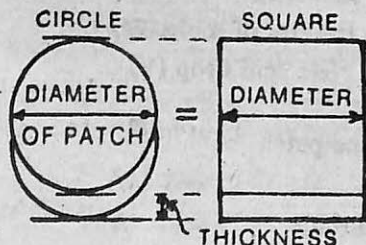
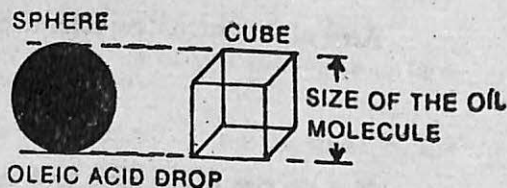

Fig. 27.3.
Fig. 27.4.
3. The measurements are obviously rough but worth having. Treat the oil drop as a cube, or width equal to the diameter of the sphere (Fig. 27.4). Treat the oil patch as a square instead of a circle (Fig. 27.3) a square of width equal to the diameter of the circle. That will yield a smaller estimate of molecule—height, two-thirds of the proper result—but never mind, simplicity is best here.